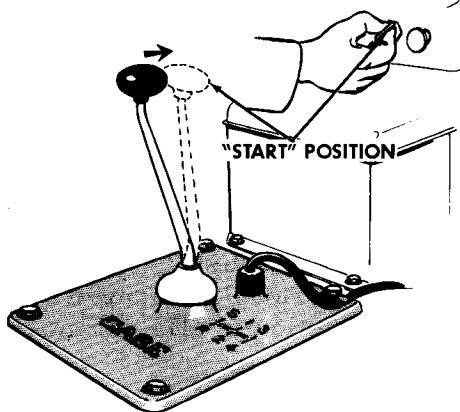

Figure 4
2. Move gear shift lever to "Start" position, Figure 4.